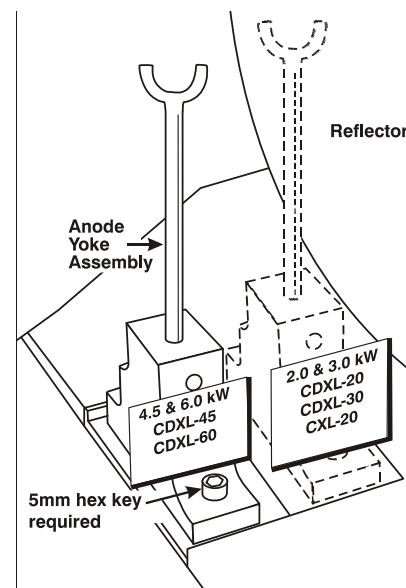

Figure 7-3 Lamp Yoke Position
- Check that the anode yoke (lamp yoke) is in the correct position. (Figure 7-3)